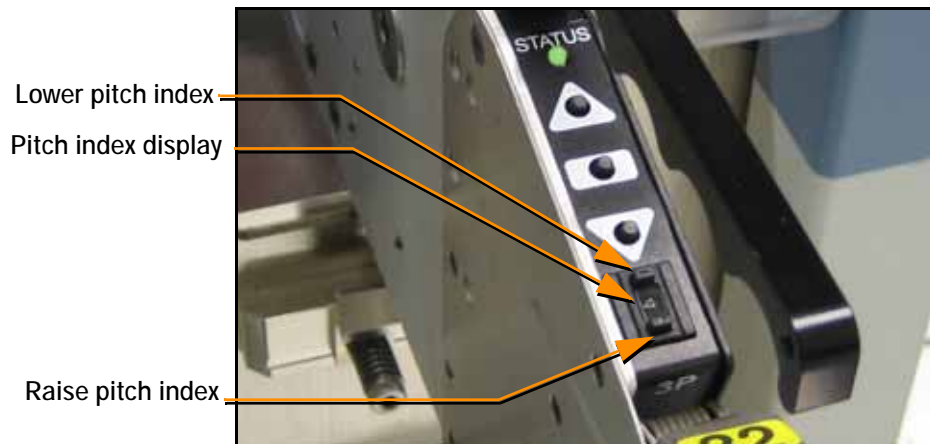

Figure 2-19: Setting the Tape Feeder pitch index.
- 7b. On the feeder control panel, set the pitch index to the number of guide holes. For example, if there are four guide holes from pocket center to pocket center, enter 4 in the pitch index. Use the [-] and [+] buttons to lower or raise the pitch index. See Figure 2-19.